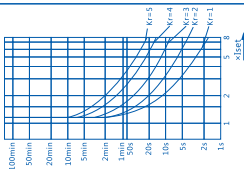

Figure 1 Time-current Characteristic Curve
2.1.1 Motion characteristic of inverse time lag (overload): When the current value exceeds 1.05 times of the setting current value, the protector will start the inverse time lag overload protection function. The protector will simulate and calculate the thermal accumulation and motion time of the motor according to the overload multiple of the overload current. When the thermal accumulation reaches a certain value, the protector will motion and cut off the AC contactor to protect the motor. For the relationship between overload current and time, please refer to Figure 1 and table 5.